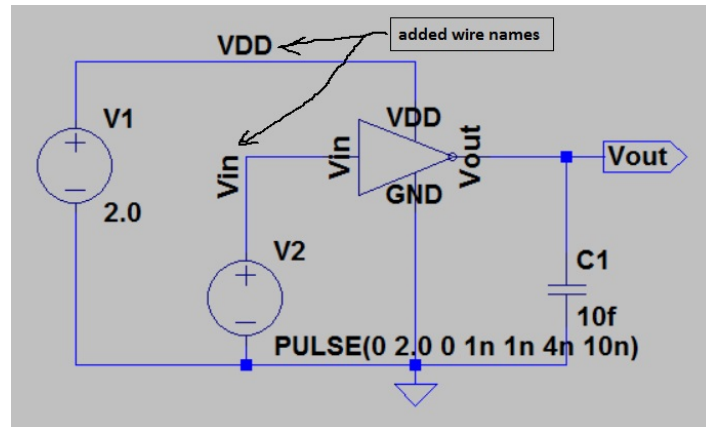

Figure 17. The test bench with wire names
- B. To add wire names for viewing the results after simulation, click  to add **VDD** and **Vin** with **Port Type – none**, one by one with **click** the respective wires as Figure 17 shows.